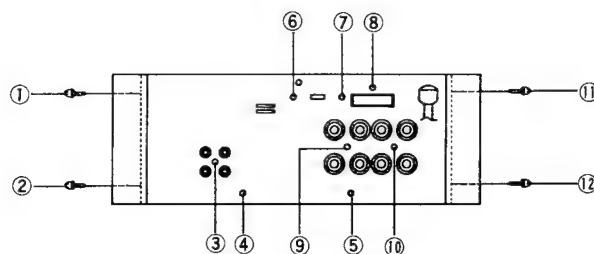

Fig. 3
1. Remove screws ① to ⑫ in Fig. 3, and then remove the rear panel
1. Remove the rear panel in Fig.3 (Refer to step 3)